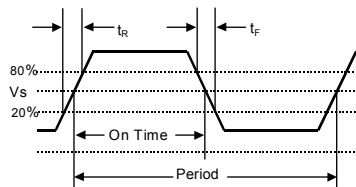

Figure 2. Output Waveform
2. Figure 2 defines the waveform parameters. Figure 3 illustrates the standard test conditions under which these parameters are tested and specified
3. Duty Cycle is defined as (on time/period) with Vs = Vdd/2 per Figure 2. Duty Cycle is measured with a 15pf load per Figure 3.